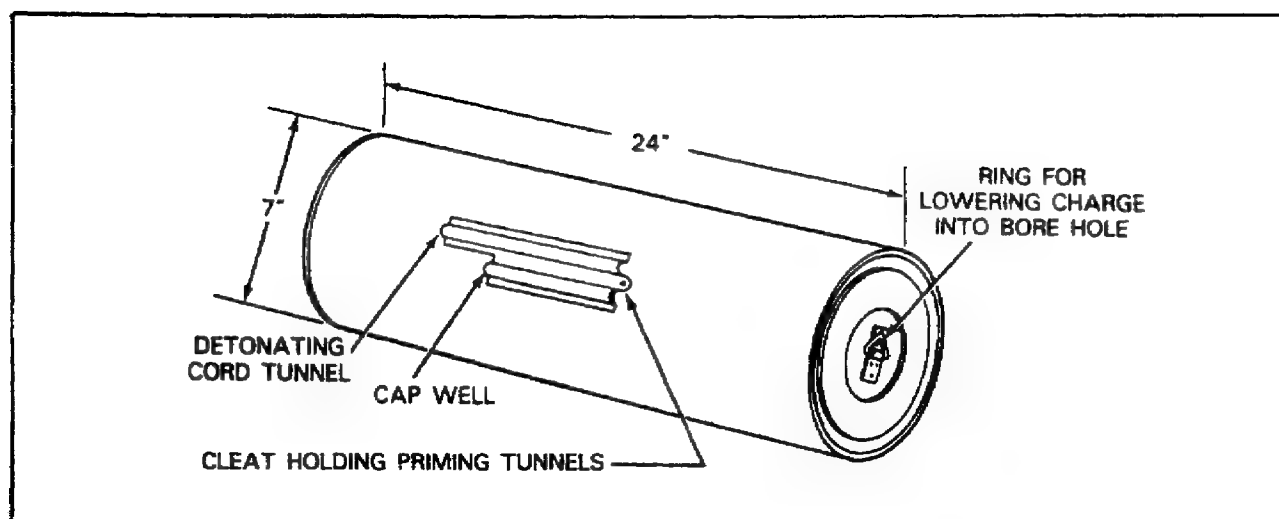

Figure 86. Charge, Cratering, 43-Pound.
**Charge, Cratering, 43-Pound.** The 43-pound cratering charge (Figure 86) is used for cratering and ditching. Since it contains a large amount of explosive, it may also be used to destroy buildings and bridges. The charge consists of a cylindrical metal container filled with 30 pounds of ammonium nitrate and a 10-pound TNT booster charge. The complete charge weighs 43 pounds. It has a metal rings attached to its top and two priming tunnels on the side. The metal container is color coded olive drab with yellow markings. The charge is packed one per wooden box.